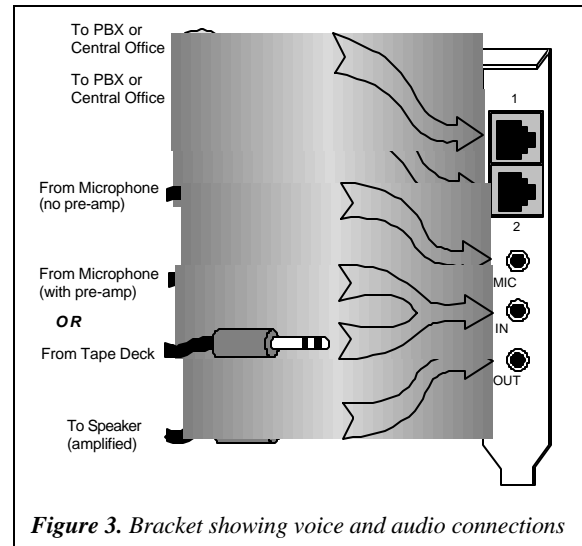

Figure 3. Bracket showing voice and audio connections
- The ProLine/2V supports a single analog voice channel per RJ-11 jack (channel 1 corresponds to J1 and channel 2 corresponds to J2). Use RJ-11 connectors and phone cable to connect each voice channel to a PBX or the CO (see Figure 3).